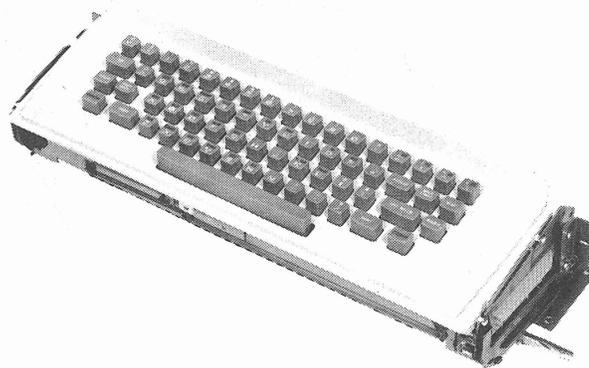

Figure 1 - Keyboard Unit
1.01 This section provides adjustment procedures for the late design, 11-contact 37 keyboard unit (Figure 1). It is reissued to add information about the depressed keytop audible "click". Base and reset mechanism information was removed and placed in Section 574-331-100. Marginal arrows normally indicating changes have not been used. Adjustments for early design, 28-contact units, can be found in Section 574-321-700.